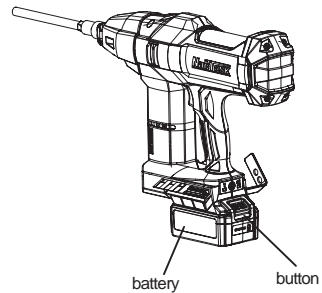

Figure 3
1. Install the battery pack, as shown in Figure 3 below. When inserting the battery pack, insert the battery pack into the case correctly. Be sure to insert it all the way to the bottom until you hear a clicking sound, indicates that the battery pack is securely attached to the machine. Otherwise the battery pack will accidentally fall off the case, causing injury to the operator or others. Avoid inserting the battery pack too hard or using other objects to knock it in. \* note: only batteries of the specified model can be used. Use of battery packs from other brands carries the risk of injury and personal injury and property damage due to the explosion of the battery packs.